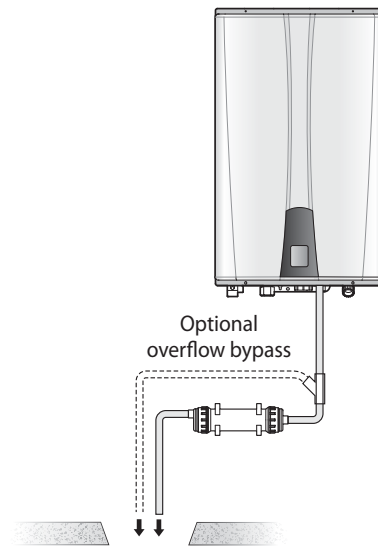

Figure 1. Horizontal installation
- If the neutralizer is installed horizontally, rotate the neutralizer to position the outlet at the highest point (Figure 1).